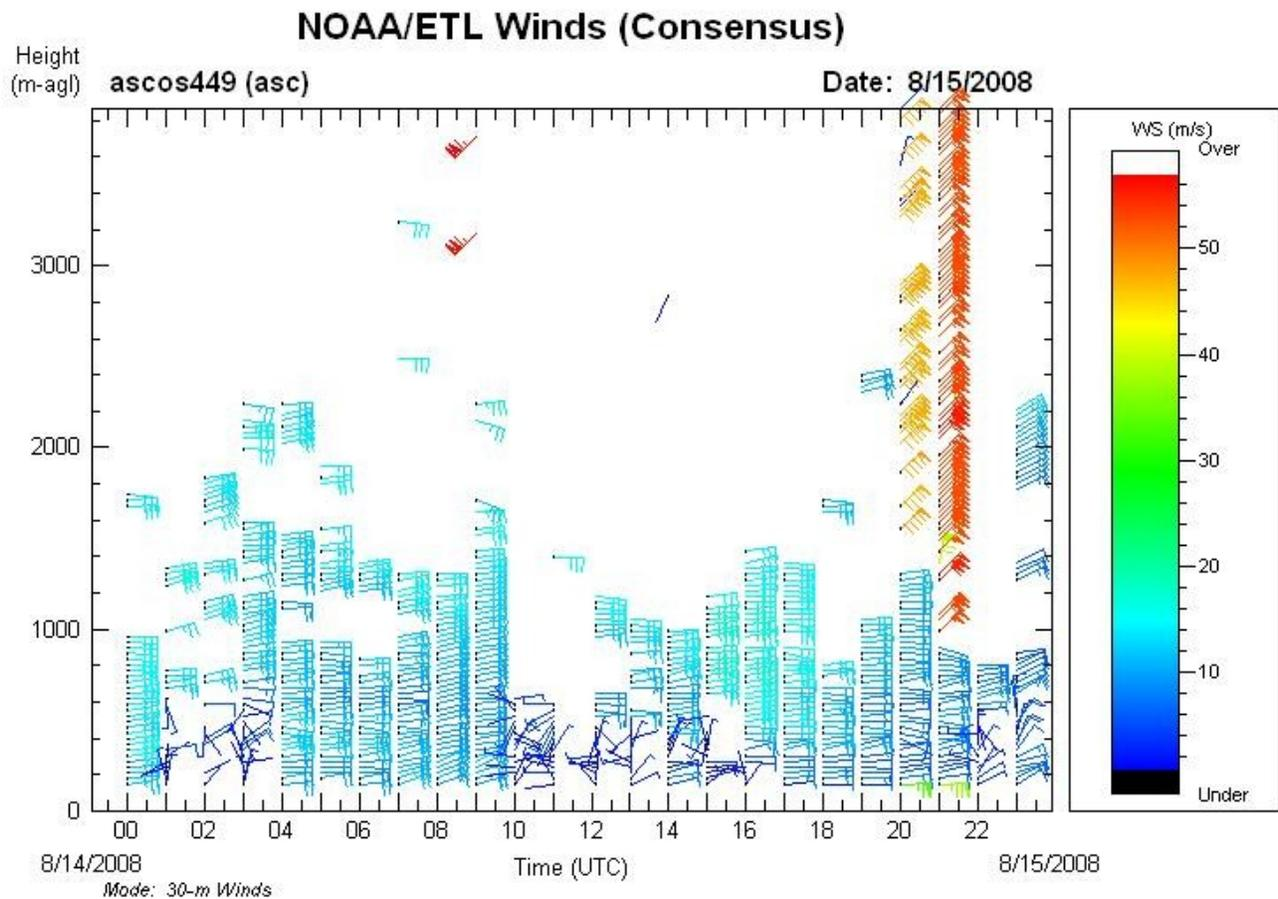

Figure 3. Preliminary first results from the 449 Wind Profiler on the Oden. Data is from a 60 m pulse that has been sampled every 30 m.
6. I distributed preliminary data from the 449 via email. Figure 3 shows the low mode data for today. Some of the problems are from clutter. Others are from the MPP algorithm not selecting the proper peak. The high winds in hour 21, for instance come from the MPP locking onto some interference signal.